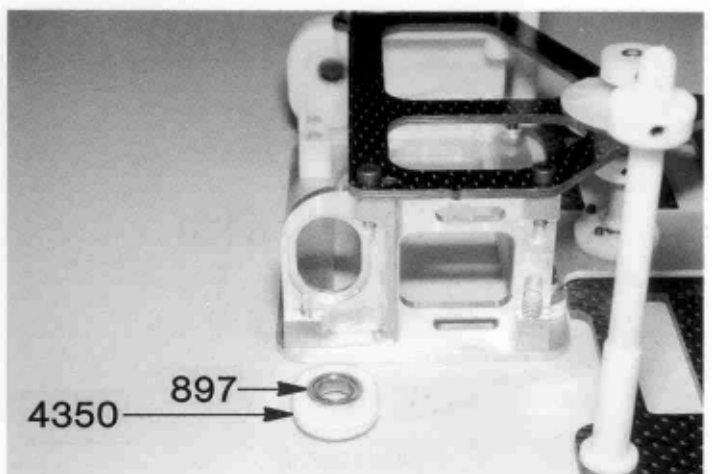

Fig. 41
□ **Figs. 41 & 42**— Take the #4350 plastic axle bearing height adaptors. This is the pair with the holes most offset, the ones which allow the bearings to be mounted the highest in the car. Install two #897 ball bearings in the two adaptors. Then install the two bearing adaptors in the bulkheads.